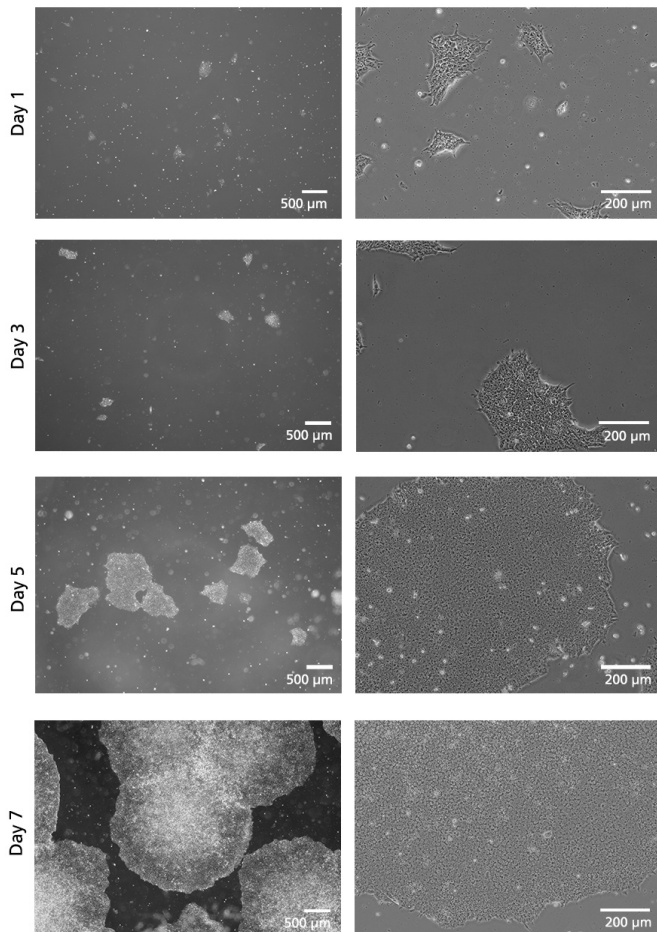

Figure 1. Recovery of SCTi006-A iPSCs on Days 1 - 7 After Thaw
13. Perform medium changes as desired using mTeSR™ Plus and visually assess cultures daily to monitor growth and morphology. See Figure 1 for expected growth characteristics during the first seven days after thawing. Medium can be changed daily, every other day, or up to two consecutive days of feeding can be skipped when using mTeSR™ Plus. To skip two consecutive days of feeding, add twice the volume of medium.